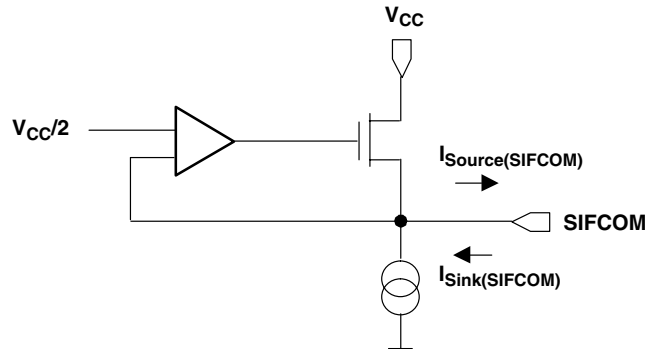

Figure 20. P6.x/SIFCHx timing, SIFCHx function selected
2. The sink and source currents are a function of the voltage at the pin SIFCOM. The maximum currents are reached if SIFCOM is shorted to GND or V_{CC}. Due to the topology of the output section (refer to Figure 20) the V_{CC}/2 generator can source relatively large currents but can sink only small currents.